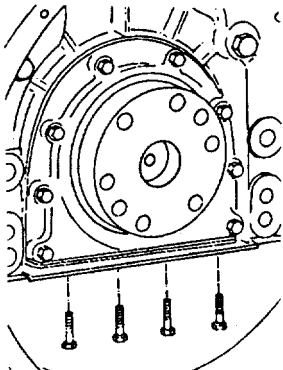

FIGURE 3-82. Rear Cover Capscrews.
- (2) Loosen the oil pan mounting capscrews four to five turns (FIGURE 3-82) .
- (3) Remove the four oil pan mounting capscrews which secure the oil pan to the rear cover (FIGURE 3-82) .